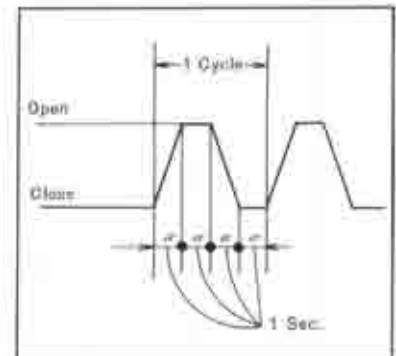

Fig. 4-15 Test pattern
5. Fully operate the throttle valve ten times according to the cycle as shown in Fig. 4-15 by means of the throttle lever or accelerator pedal and check the amount of discharge by reading the decrease of fuel in the burette.